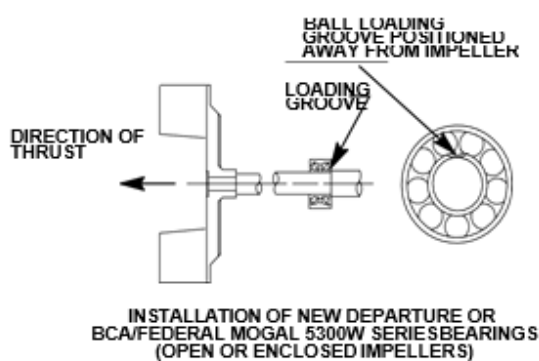

Figure 11 - INBOARD BEARING POSITIONING
Press the outboard oil seal (68) into the bearing cap (67) with the lip positioned as shown in Figure 11. Replace the bearing cap gasket (66) and secure the bearing cap with the hardware (69 and 70). Be careful not to damage the oil seal lip on the shaft keyway.